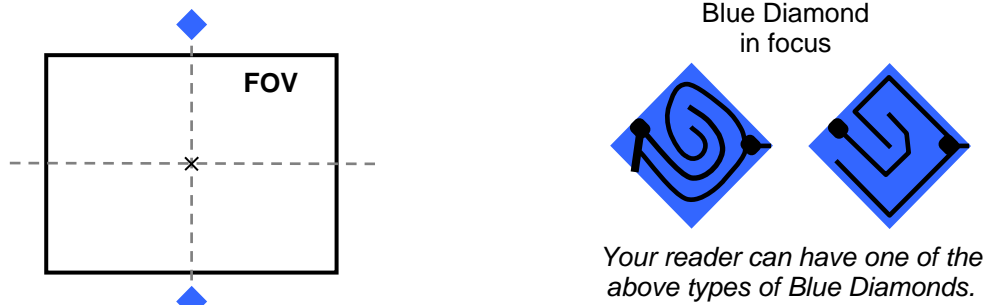

Figure 7 – Focus Function Using Blue Diamonds
- a. Adjust the Focus ring towards the "Near position" until the Blue Diamonds are perfectly in focus, see Figure 7.